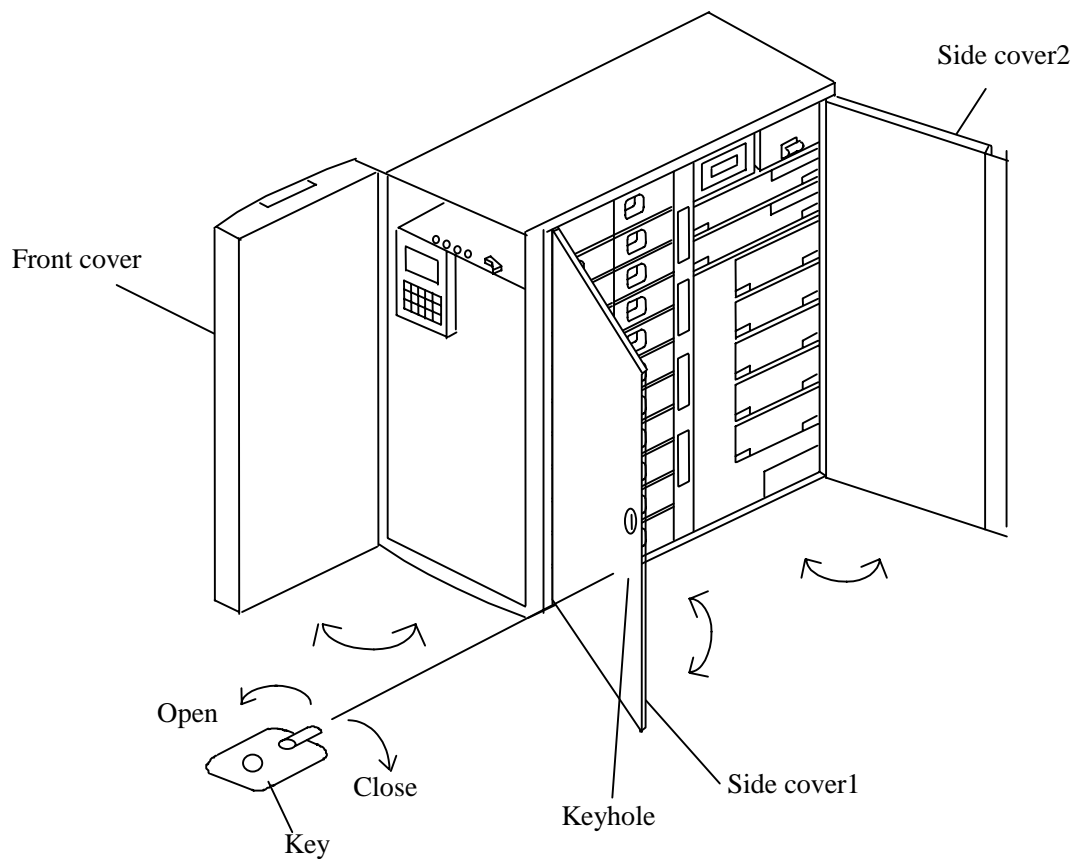

Figure 3. Opening/Closing Front and Side Covers
#### (1) Opening/closing the front cover (See Figure 3.)
#### (2) Opening/closing the side covers (See Figure 3.)